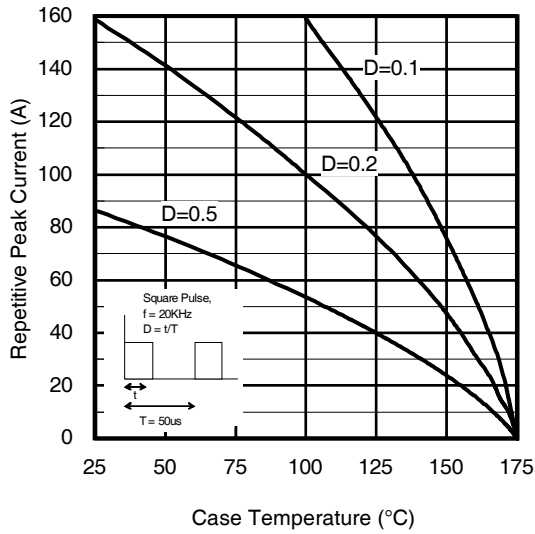

Fig 19. Maximum Diode Repetitive Forward Peak Current vs. Case Temperature
- ① $V_{CC} = 80\% (V_{CES}), V_{GE} = 20V, L = 200\mu H, R_G = 10\Omega$.
- ② Pulse width limited by max. junction temperature.
- ③ Refer to AN-1086 for guidelines for measuring $V_{(BR)CES}$ safely.
- ④ $f_{sw} = 20KHz$, refer to figure 19.
- ⑤ Sinusoidal half wave, $t = 10ms$.